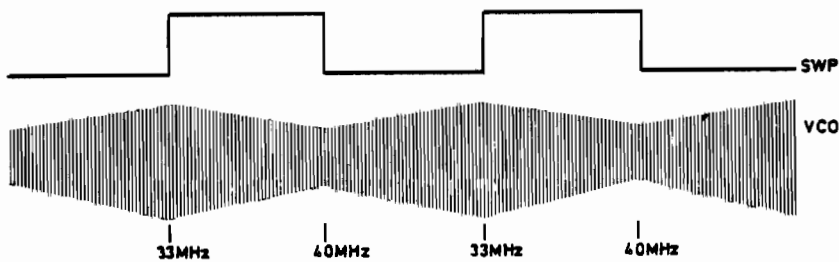

Fig. 6 VCO output (no signal input)
35. With no r.f. signal input to channel A the VCO is swept in synchronization with the SWP output as shown in Fig. 6.